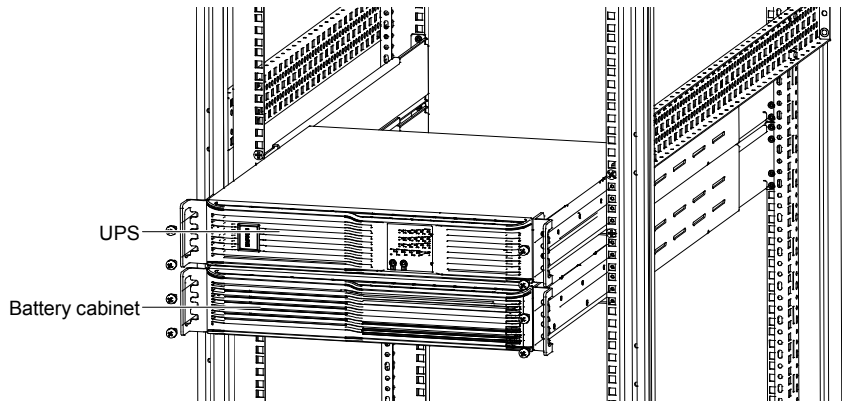

Figure 2-9 Rack installation of single standard UPS and single battery cabinet
3. The installation method of the UPS is the same as that of the battery cabinet. Install the UPS on top of the battery cabinet. The rack installation method of single standard UPS and single battery cabinet is shown in Figure 2-9.